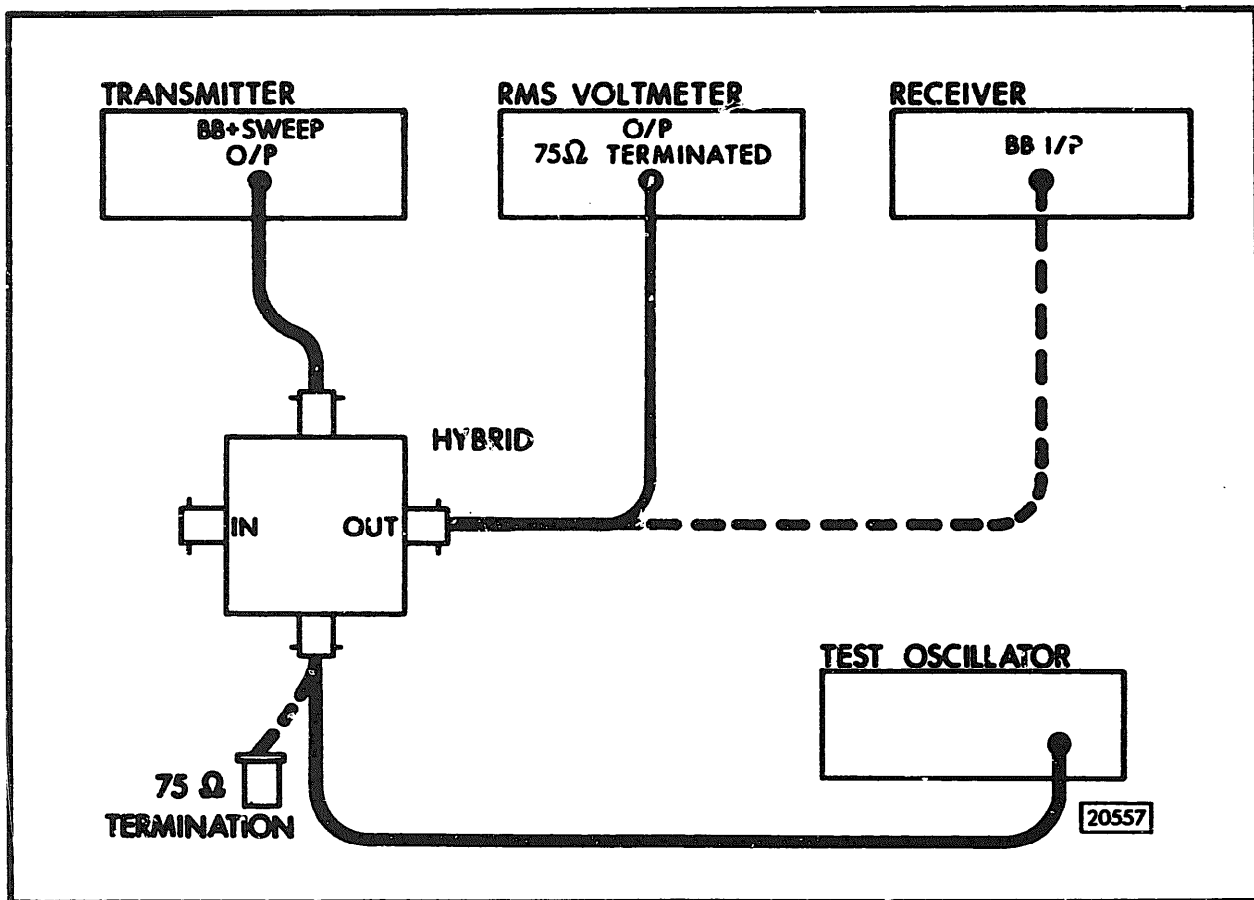

Figure 4-21 Delay Calibration Check
- 3702B BB INPUT (29)..... EXT
- 3702B IF ATTENUATOR (25) 10dB
- 3702B Y2 DISPLAY (13) DELAY
- 3702B MARKERS (19) SLIDING
- 3703B/3705A BANDWIDTH (22) ... 10kHz
3. Connect the Transmitter IF OUTPUT to the Receiver. IF INPUT (D). Ensure that the IF/BB LEVEL meter (11) is on-scale. Adjust the Receiver for a 10cm horizontal display on the CRT.
4. Set the BLANKING witch (30) to OFF and adjust the X-PHASE SHIFT control (3) to superimpose the markers on the forward and return traces. Set the BLANKING switch (30) to ON.
5. Connect the equipment as in Figure 4-21 with the 75Ω termination connected to the Hybrid.
1. Connect the equipment as in Figure 4-21 and perform the check detailed in Paragraph 4.49, steps 1 through 11. Note: The Test Oscillator output level need not be set exactly.
5. Set the BANDWIDTH switch (22) to 5kHz and reduce the Test Oscillator frequency until the display amplitude rises to 5.6cm. **Check** that the counter feeding is between 4.5 and 5.5kHz.
6. **Set the BANDWIDTH** switch (22) to 1kHz and **reduce** the Test Oscillator frequency until the display amplitude rises to 5.6cm. **Check** that the counter reading is between 0.9 and 1.1kHz.
7. [OPT 015 only.] Set the BANDWIDTH switch (22) to 180Hz and reduce the Test Oscillator frequency until the display amplitude rises to 5.6cm. **Check** that the counter reading is between 162 and 198Hz.
8. [OPT 015 only]. Set the BANDWIDTH switch (22) to 180kHz and reduce the Test Oscillator frequency until the display amplitude rises to 5.6cm. **Check** that the counter reading is between 81 and 99Hz.